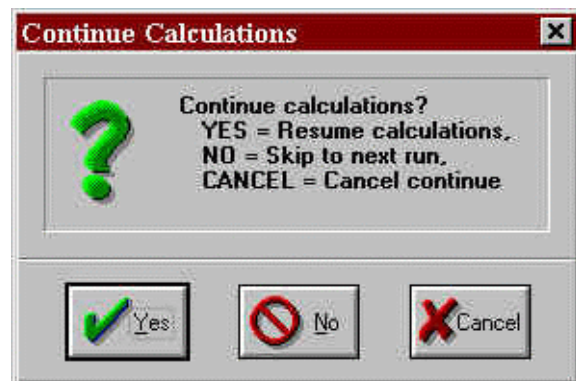

Figure 18. Continuing calculations after cancelling.
- **Start/Continue** - Begins calculating runs. The button is greyed and un-selectable once calculations have started. If a calculation is cancelled, then this button will be changed to a **Continue** button, which when selected, will allow the interrupted calculation to continue (see Figure 18). If any changes are made to the **Calculation Manager** dialog, then this button will revert to a **Start** button to re-initiate calculations from the first run. Runs will be calculated in the order in which they were selected. As each run is calculated, a “gauge” dialog will be displayed to track the progress of that run (exactly as it does for a Current Run calculation);